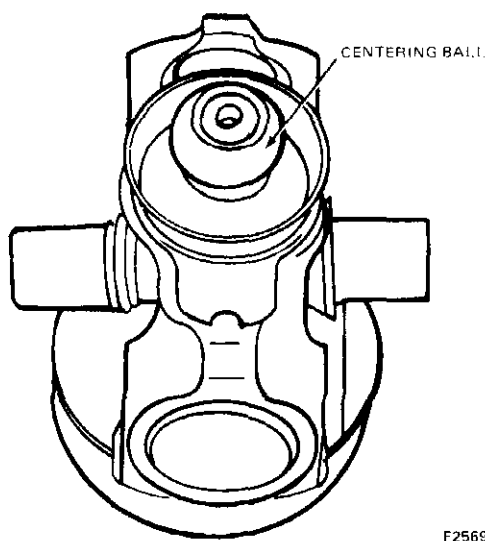

FIG. 13 Centering Ball Location
7. Remove the spider from the flange yoke, and the flange yoke from the coupling yoke. The centering ball is part of the ball support yoke which is welded to the tube (Fig. 13).